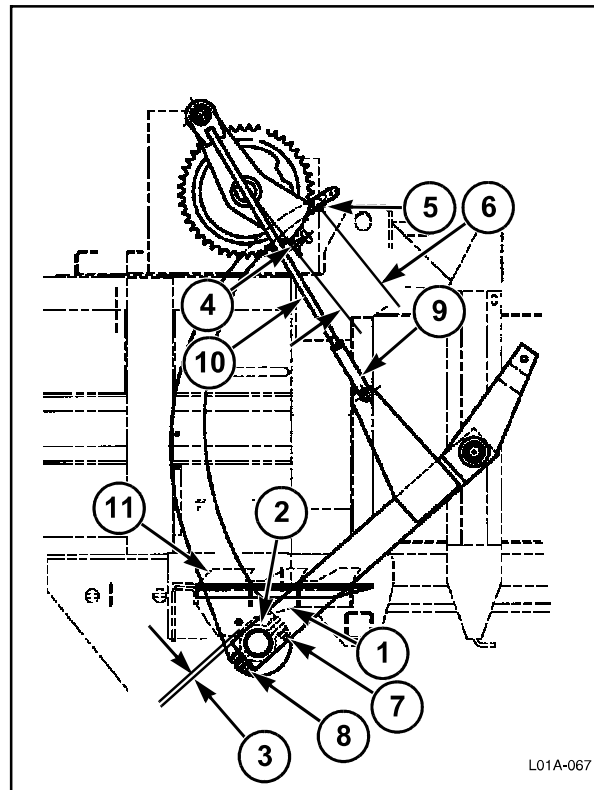

FIG. 56
FIG. 56: Rotate the flywheel until the needles are at the top of the stroke. Measure the gap between the bottom of the needle guide plate (1) on the saw tooth hay dogs and the top of the needle mounting plates (2). The gap must be 8 to 14 mm (3). If the gap is not correct, adjust the bottom clevis on both needle adjusting rods (4). Check the gap again.